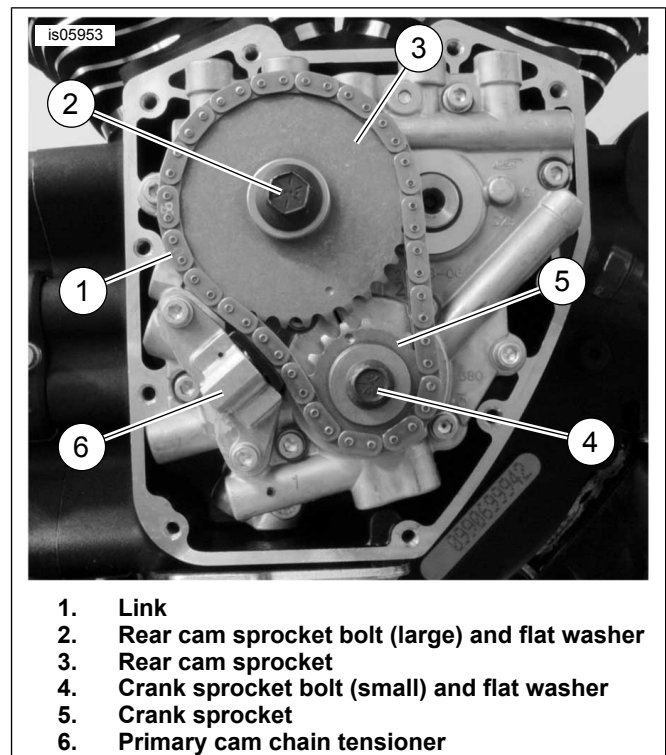

Figure 7. Cam Support Plate Assembly
21. Install the correct style primary cam chain, as noted in step 20. See Figure 7.
22. Install the primary hydraulic tensioner (6). Tighten the fasteners to 10.2–13.6 N·m (90–120 in-lbs). Remove the locking clip from the tensioner.